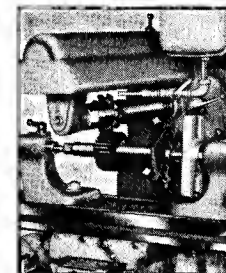
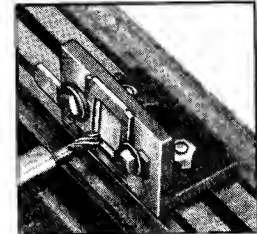

Fig. 16
Fig. 24
8. **GEAR CUTTING:**—For gear cutting operations (see fig. 16), formed gear cutters are used. The shape of the cutter teeth, of course, depend upon the pitch of the teeth which are going to be cut. The index centers attachment is recommended for this milling operation. See catalog.
The following attachments are also available: Index Centers, used for splining, fluting, gear cutting and squaring shafts (see figs. 16 and 21); Rotary Index Table, for angular indexing and spacing (see fig. 20); and Angle Plate, which holds work which cannot be gripped in the vise or bolted to the table (see fig. 24.)